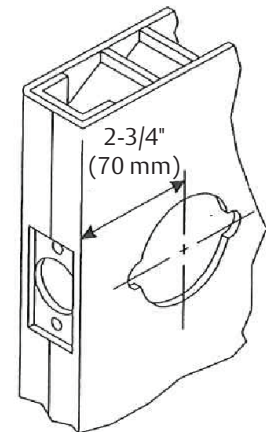

Figure 3
- Extend horizontal and vertical lines of the cut-out. (Figure 3)